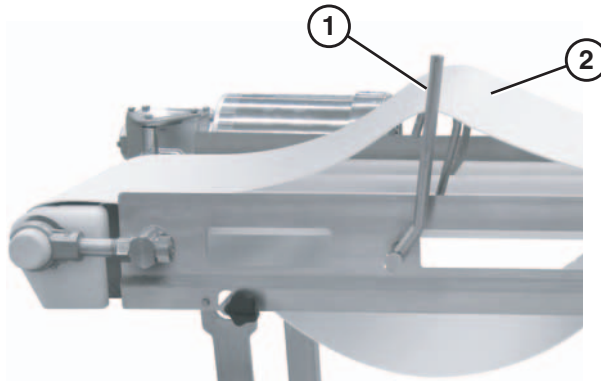

Figure 43
1. Remove the guides, if applicable, by removing the pull pins (**Figure 43, item 1**) that connect the guide (**Figure 43, item 2**) to the frame.
3. Use the lifter handle (**Figure 43, item 1**) to raise the belt (**Figure 43, item 2**).